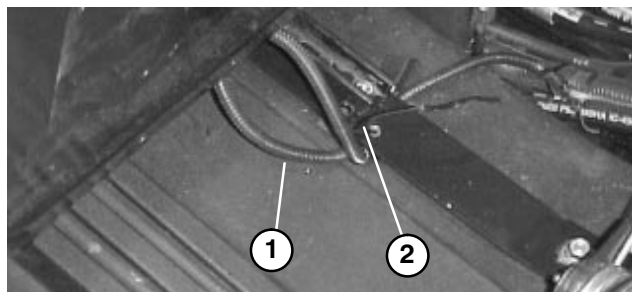

Figure 6
- On deluxe seat only, route unused seat switch connector back under seat strap and secure both wires to rear most hole in seat strap (Fig. 6) with a cable tie (cable tie supplied with seat kit).